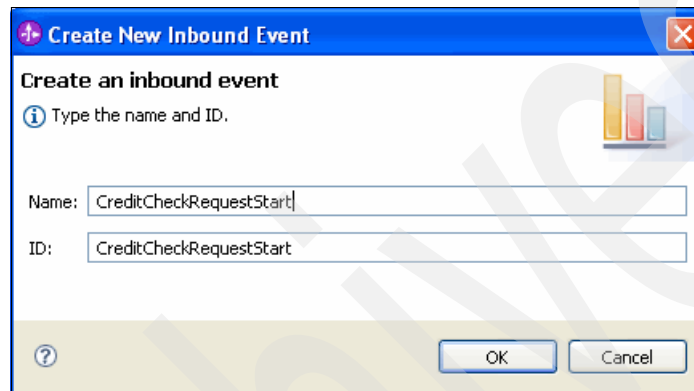

Figure 10-36 Create New Inbound Event window
2. In the Create New Inbound Event window (Figure 10-36), for Name, type `CreditCheckRequestStart`. Click **OK**.